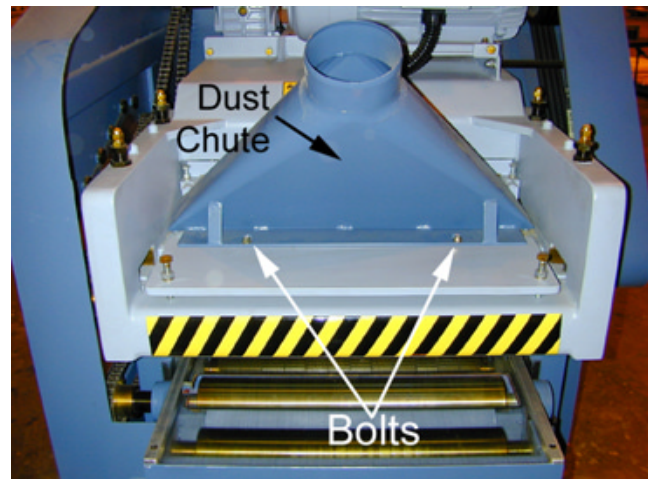

Figure 27
1. **Figure 27** shows the rear of the planer. Loosen the two *bolts* shown in **Figure 27**, and then remove the *dust chute*.